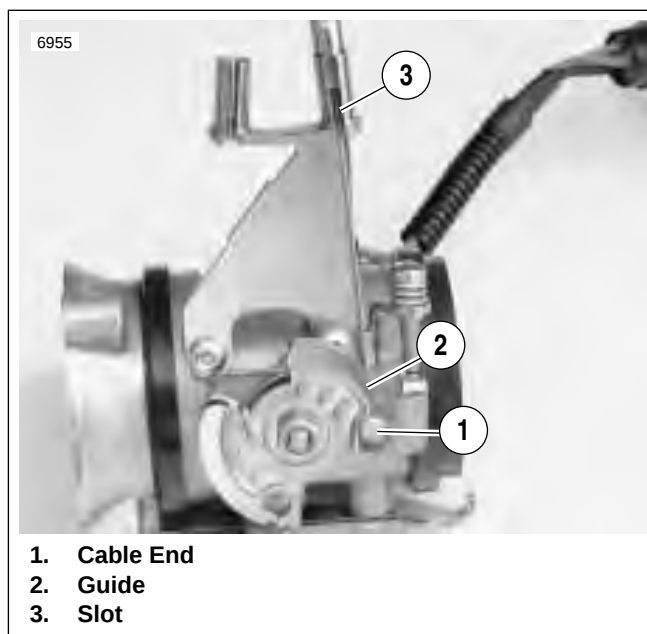

Figure 4-99. Idle Control Cable Installation
3. See Figure 4-99. Attach both throttle cables. Add free-play to cables if necessary.
- a. With the manifold assembly close to the right side of the bike but not fully installed, place idle control cable end (1) into hole on guide (2). Wrap the cable into the channel.
- b. Place the end of the cable housing into the bracket by sliding the cable through the slot (3). Adjust the cable so it will not dislodge from the bracket.